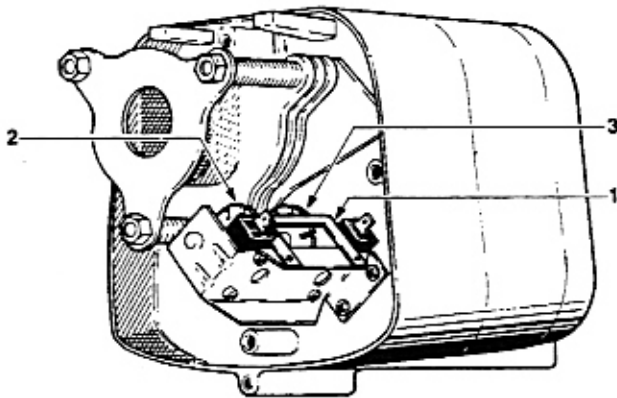

FIGURE 4-2. CHAIN REPLACEMENT
- 3) With a screwdriver, push the spring guide plate (#1) out of the slots in the plastic limit switch nuts. Turn the slotted nut nearest you (#2) back to about the center of the threaded screw. Do not disconnect the wires from the limit switches (See Figure 4-2).
#### 4-6. Limit Switch Adjustment (Refer to Figure 4-2.)